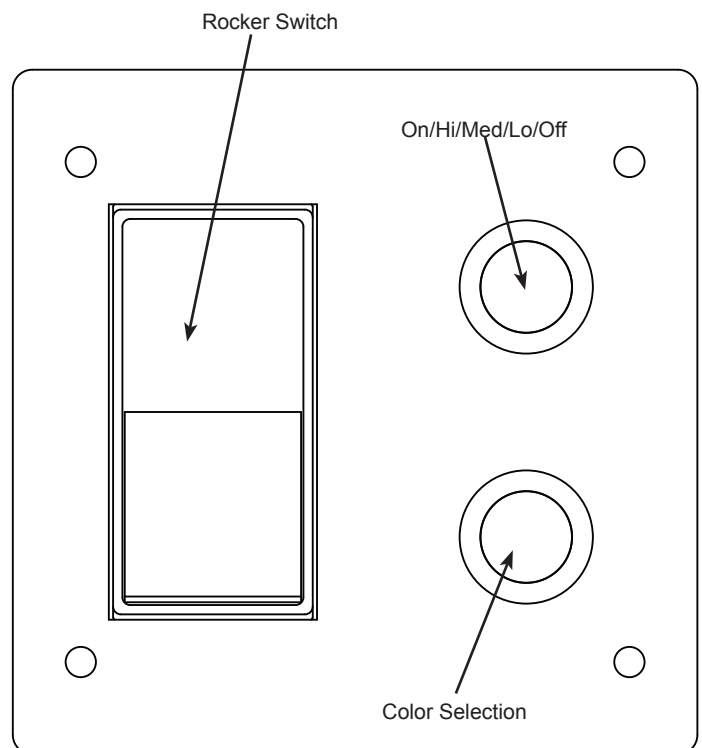

Figure 3.3. Wall Control Switch
The Lanai series appliance comes standard with a rocker switch and two(2) button wall control panel . See Figure 3.3